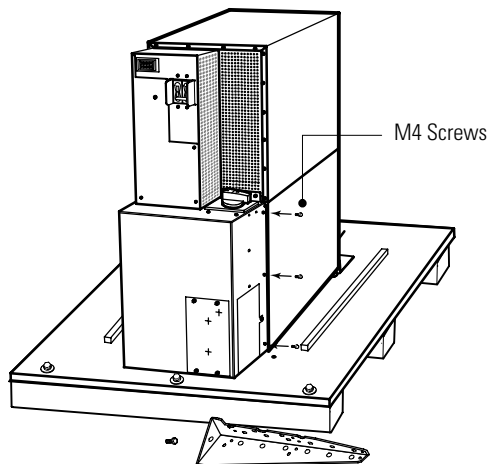

Figure 7. Reinstalling the M4 Screws
3. Reinstall the M4 screws to the UPS (see Figure 7).